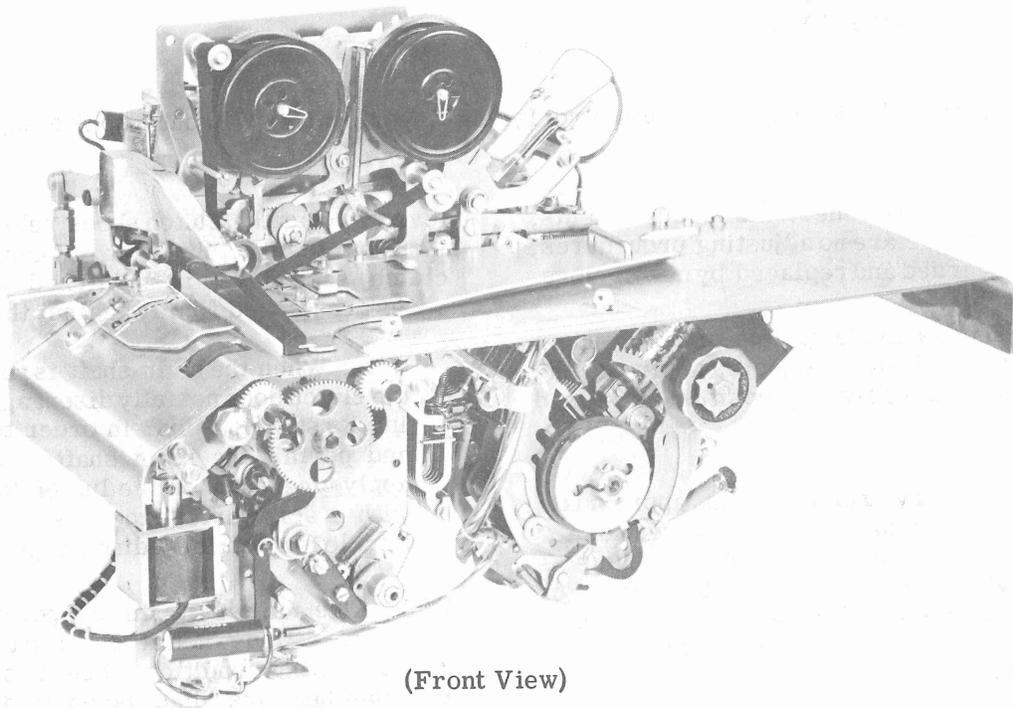

Figure 1 - 35 Edge Punched Card Typing Reperforator
1.01 This section provides adjustments and requirements for the 35 edge punched card typing reperforator (Figure 1). The section has been revised to include recent engineering changes and additions. Marginal arrows indicate changes and additions.